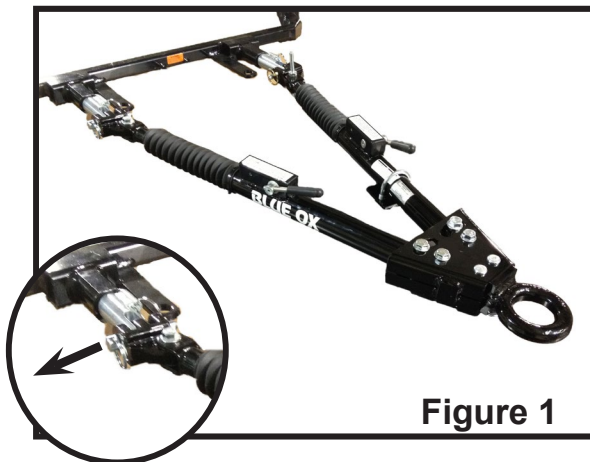

Figure 1
2. Disengage the leg latches by pushing down on the locking handles. Remove the quick pin and 1/2" pin attaching the triple lug to the attachment tab on the passenger side. You may need to tap the 1/2" pin out if there is still pressure on it (Figure 1).